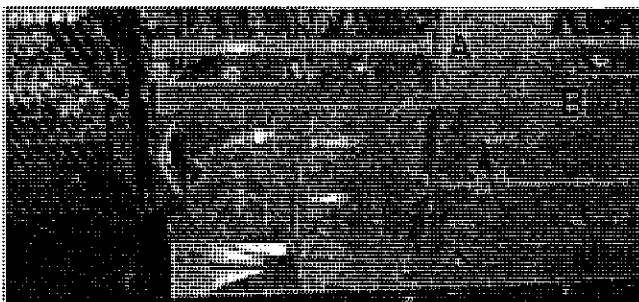

Figure 2.29: Belted Chain Tensioning. (A) - Bracket Nuts; (B) - Take-Up Nuts.
The belted chain tension is adjusted by loosening nuts (A) (see Figure 2.29) then loosening nuts (B). Turn outer nut (B) counterclockwise to increase tension, or clockwise to decrease tension. Tighten nuts. The belt should be 1" to 2" above 5" roller at joint of elevator.